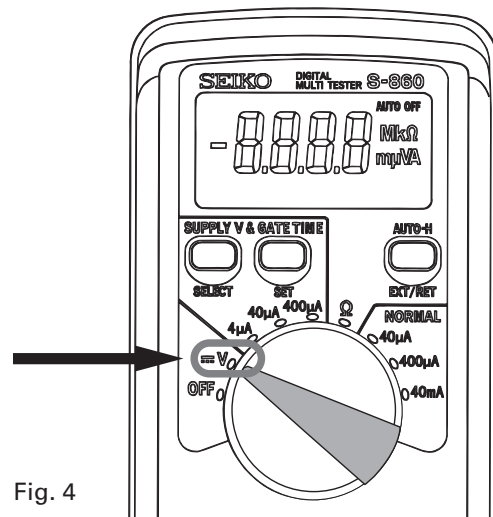

Fig. 4
- \* When measuring the voltage using the SEIKO digital multi-tester (S-860), use the range of V (Fig. 4).